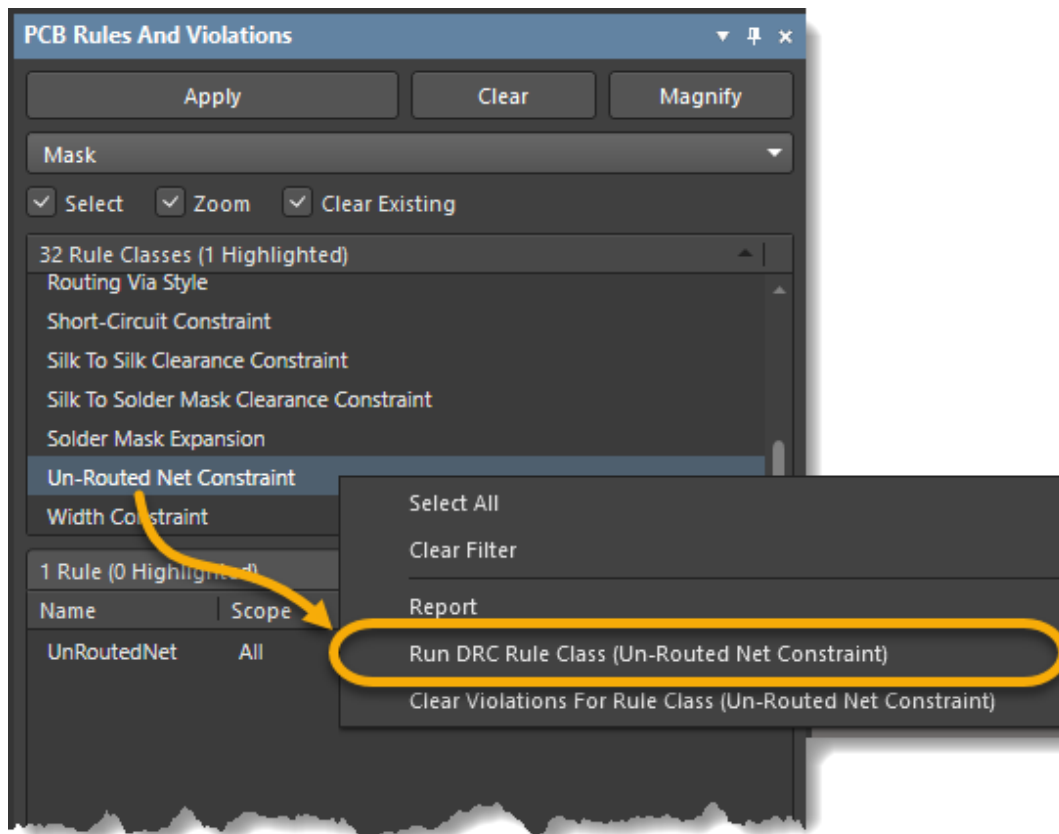

Figure 12. Rule Classes in the PCB Rules and Violations panel
27. Scroll down and right-click on **Un-Routed Net Constraint** in the *Rule Classes* section of the *PCB Rules and Violations* as shown in Figure 12.